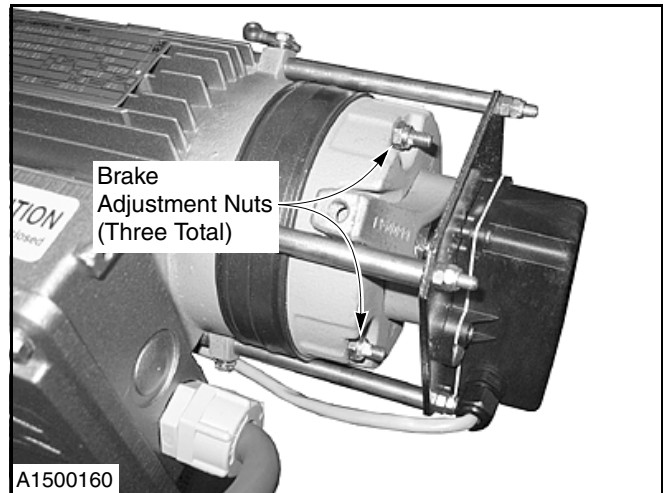

Figure 48
3. To adjust the brake, first securely tighten all brake adjustment nuts. Then back off each nut 1/2 turn counterclockwise. (See Figure 48.)